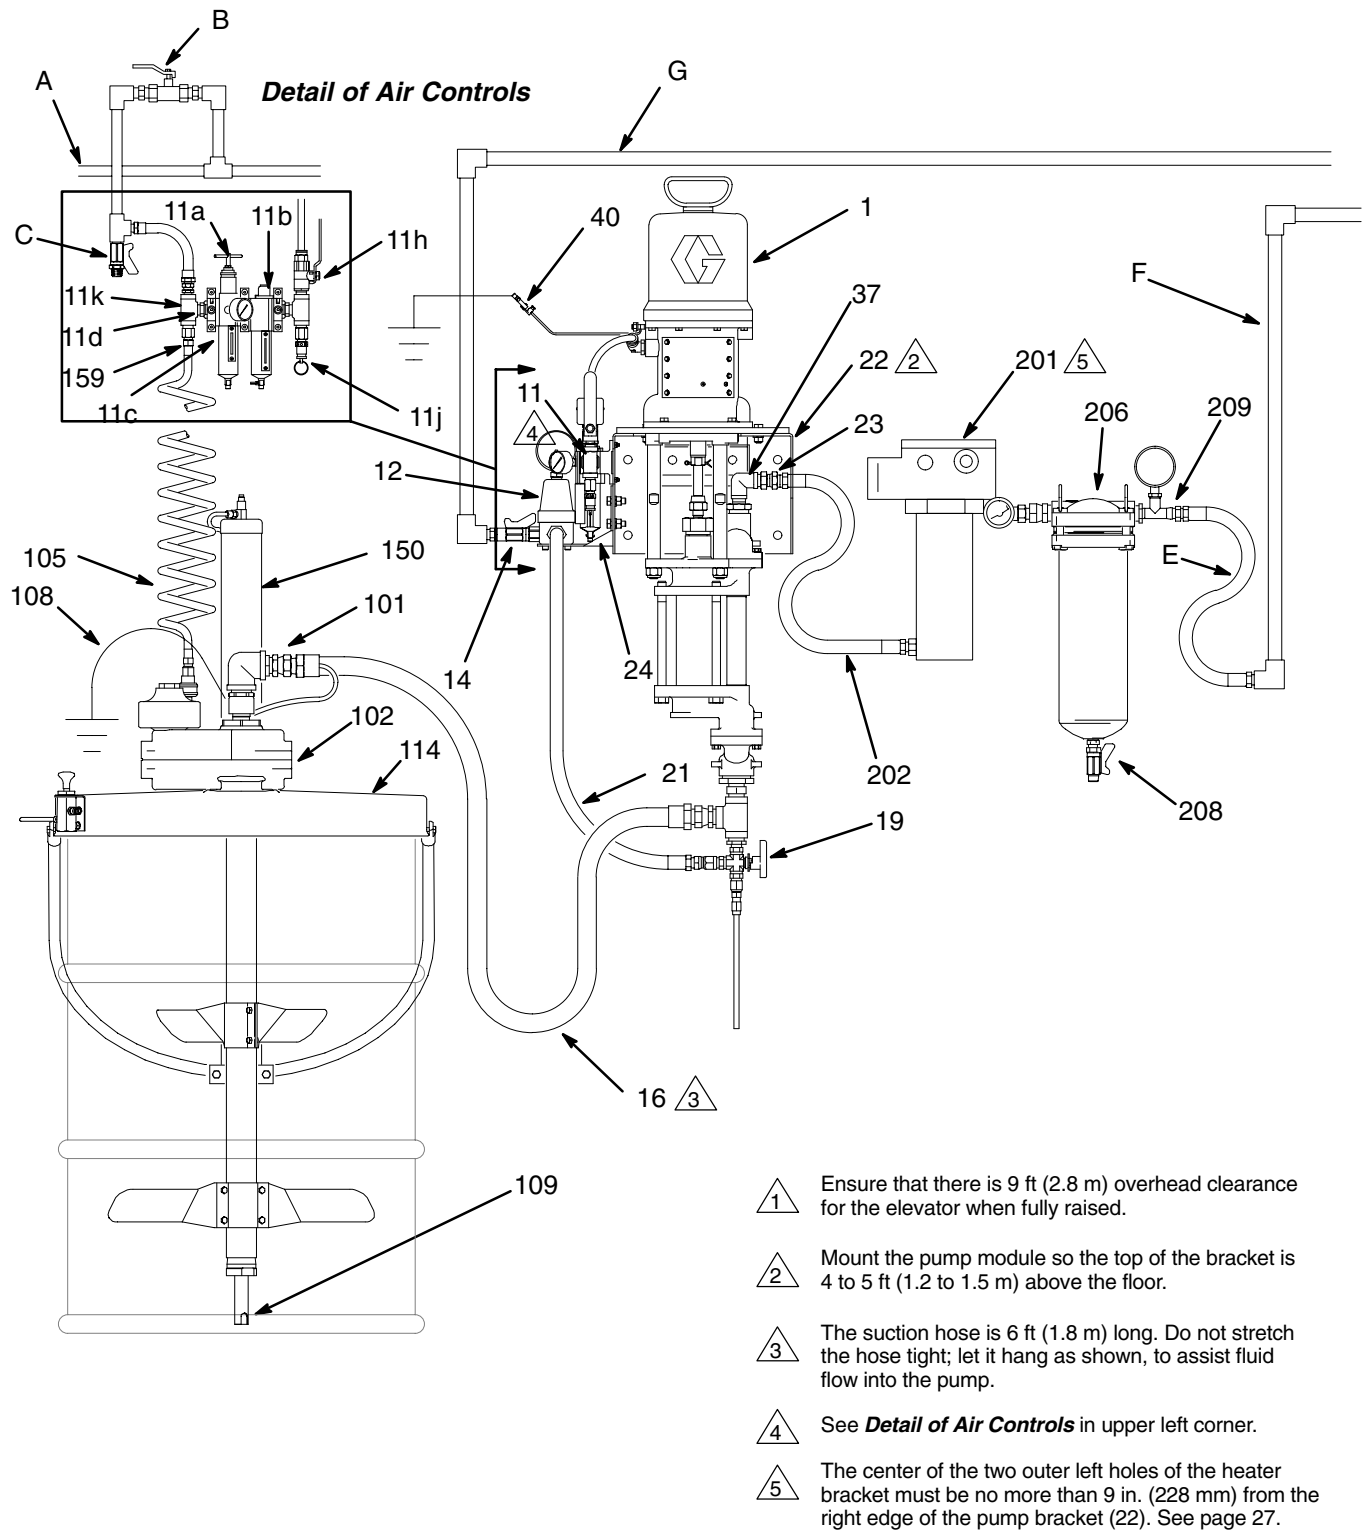

Fig. 1
Refer to Fig. 1 on page 7. Bring a compressed air supply line (A) from the air compressor to the pump location. Be sure all air hoses are properly sized and pressure-rated for your system. Use only electrically conductive hoses. The air hose should have a 3/8 npt(m) thread.
Refer to Fig. 1.
- Fluid is supplied to the pump through the **suction hose (16)** and **tube (109)**. The suction tube (109) is installed in the shaft of the agitator (102). See Fig. 1.
- **The fluid filter (206)** includes a 60 mesh (250 micron) stainless steel element to filter particles from the fluid as it leaves the pump.
- **The fluid drain valve (208)**, is mounted in the bottom of the fluid filter bowl, and is required in your system to relieve fluid pressure in the hose and gun (see the **WARNING** at left).
- **The back pressure regulator (12)** controls back pressure to the gun and maintains proper circulation pressure.
- **The back-gear agitator (102)** keeps the fluid in suspension and also includes a suction tube (109) to draw fluid from a 55 gallon drum.
- **The air-operated elevator (150)** allows you to raise the drum cover and agitator from an empty drum, replace the drum, and lower the agitator into the new drum.
NOTE: Refer to Fig. 1 on page 7, and to the Dimension drawing on page 26 and the Mounting Hole Layouts on page 27.
2. Locate the elevator (150) so the pump module's suction hose (16) will reach the swivel (101) at the top of the agitator (102). The suction hose is 6 ft (1.8 m) long. Do not stretch the hose tight; let it hang as shown in Fig. 1, to assist fluid flow into the pump.
4. Connect the suction hose (16) to the swivel outlet (101) of the agitator (102). Connect the suction hose ground wire to the ground lug on the agitator as shown on page 13.
5. Loosen the captive screw and open the quick connector (11c) on the air filter/regulator/lubricator assembly (11). Refer to **Using the Quick Connectors**, at right.
7. Bring the coiled hose (105) up through the large hole in the back pressure regulator's bracket (24).
8. Screw the adapter (159) at the end of the coiled hose (105) into the tee (11k).